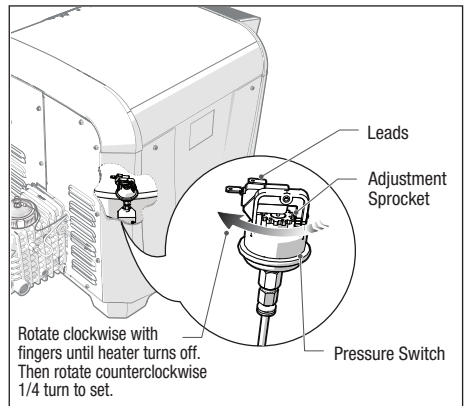

Figure 15. Water Pressure Switch Adjustment
3. Remove the side panel to gain access to the water pressure switch. See *Figure 15*.
- Slowly turn the pressure switch adjustment sprocket counterclockwise one-quarter turn. The heater should come back on. See *Figure 15*.